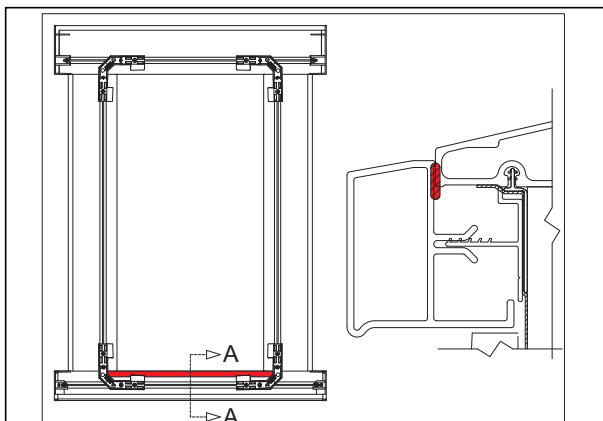

Figure 33
6. Apply a 3/16" (5) bead of clear grade NS class 25 sealant to the sill piece near the bump in the profile the length of the part, on the interior of the casing as shown in *figure 33*.